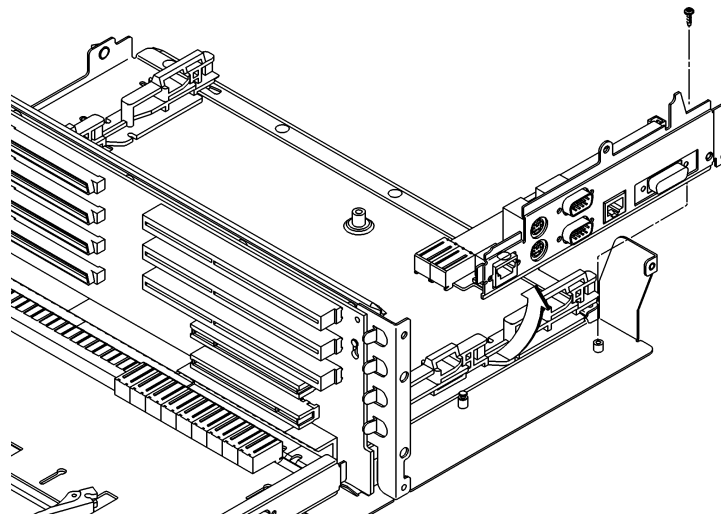

Figure 57
- 1 Remove one screw holding the I/O extension board to the main tray, as shown in Figure 57.
- 2 Slide the I/O extension board to the side to disconnect it from the backplane, as shown in Figure 57.